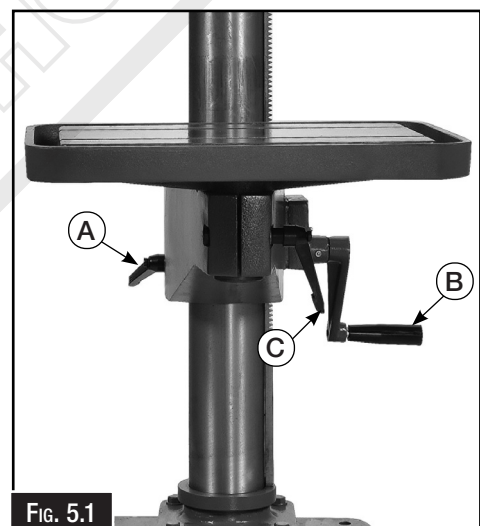

Fig. 5.1
2. Loosen the lock handle. (A in Fig. 5.1)
3. Adjust table height by rotating height adjustment crank. (B in Fig. 5.1)
1. Loosen the table lock handle. (C in Fig. 5.1)